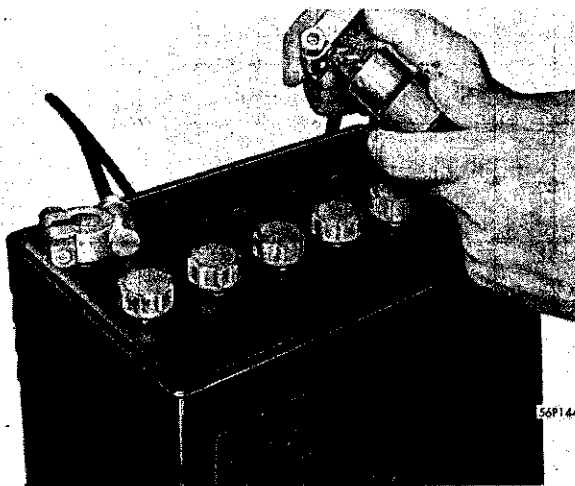

Fig. 1—Cleaning the Inside of Cable Clamp
(4) Inspect the cables. Replace damaged or frayed cables.
(5) Inspect the terminal posts to see that they are not deformed nor broken. Clean the tapered battery terminals and the inside surfaces of the clamp terminals with the terminal cleaning tool, as shown in Figures 1 and 2.
(6) Examine the battery case for cracks and the top of battery for raised cells. Inspect sealing compound for leaks. Reseal as necessary.
(7) Tighten the battery hold-down screw nuts to 3 foot-pounds torque.
(9) If the electrolyte level is low, fill to the recommended level with mineral-free water.